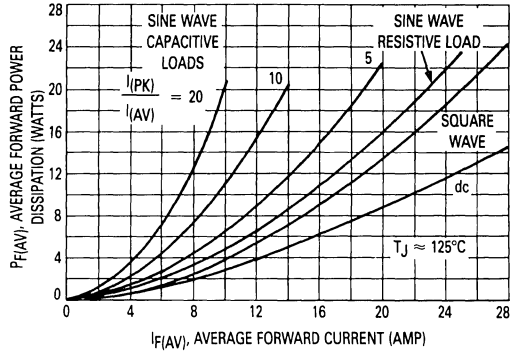

Figure 4. Forward Power Dissipation
Step 3: Find  $P_{F(AV)}$  from Figure 4.\*\* Read  $P_{F(AV)} = 12.8$